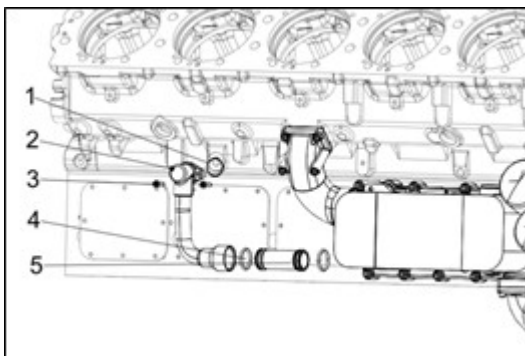

Figure 148
1. Remove the oil cooler oil outlet pipe (Fig 148, item 2), loosen the fixed bolts (Fig 2, item 3) take the oil outlet pipe, pay attention to the seal ring (Fig 2, item 1).